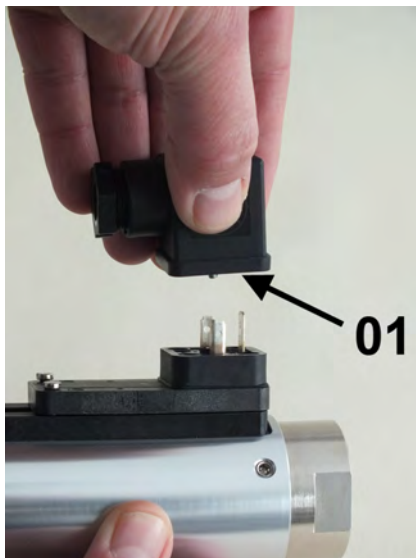

Fig. 55: Remove the female socket
2. ➤ Remove the female socket and gasket (Fig. 55/01) by pulling straight up.